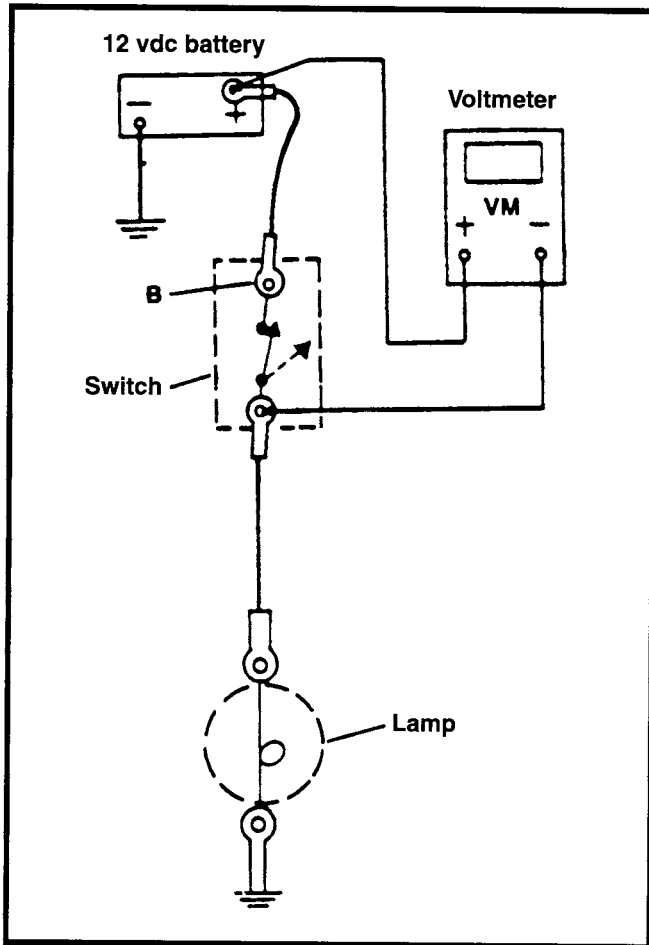

Figure 40. Sample Voltage Drop Test Connections
See Figure 40. A voltmeter (VM) connected across (in parallel with) a circuit component through which current is flowing will indicate the voltage drop across the component. The greater the resistance or current flow the higher the voltage drop. Voltage drop testing can detect very low resistance values in high current circuits. For example, the allowable voltage drop in a 12 vdc starter motor circuit, excluding solenoid and motor, is 0.2 vdc per 100 amperes (amps). The 0.2 vdc voltage drop indicates the maximum allowable resistance in the starting circuit is 0.002 ohm, a resistance value not measurable with common ohmmeters.
SAMPLE TEST DIAGRAM (Figure 40)
Figure 40 shows a simple light circuit containing a 12 vdc battery, a single pole single throw switch, a lamp and interconnecting wiring. The voltmeter, as connected, is checking the
1.4 Malfunction in fuel tank console panel (pod) circuitry.	1.4.1 Remove seat and left side cover. <ul style="list-style-type: none"> a. Disconnect DIN connector and connect one probe of ohmmeter to socket 6. See Figure 49. Continue at step b. below. b. Unplug 2-place Fuseboard to Pod connector [44] on fuse/filter board. See Figure 40. Connect the other ohmmeter probe to the black wire in connector. Ohmmeter must read 2.0 ohms minimum. If reading is less than 2.0 ohms, replace the console pod. See REMOVAL AND INSTALLATION.